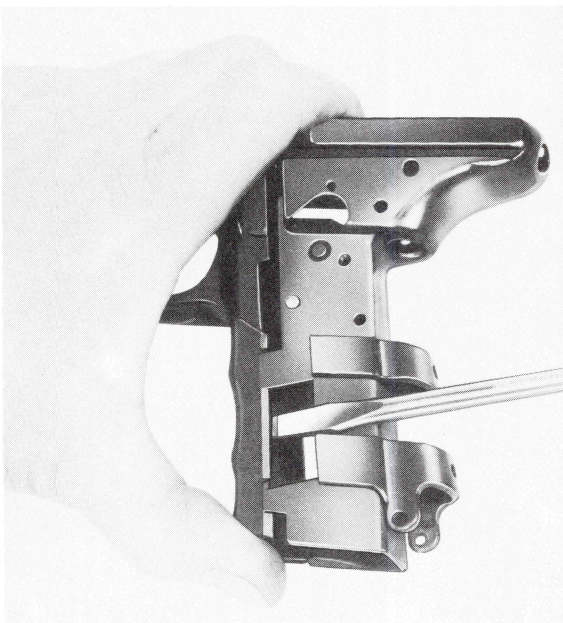

Fig. 28
- Remove support (14), buffer housing (13) and the elastic buffer (12).
- Unscrew and remove oval head countersunk screw (11) from the trigger guard (10).
- Lift the trigger guard (10) on both sides with a screwdriver (once on the left-hand side and twice on the right), then unlatch from the receiver (1) and draw off forwards (Fig. 28).
- Remove insert piece (9) downwards and the trigger (4) upwards.